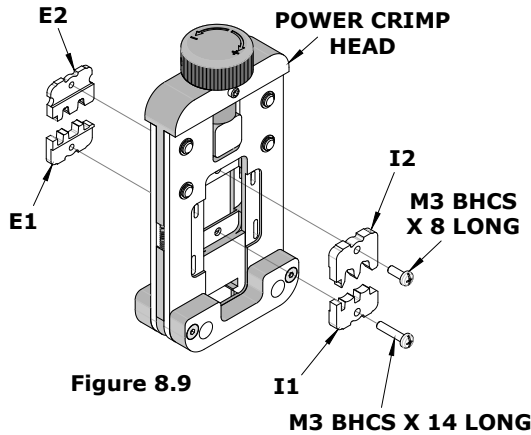

Figure 8.9
2. Insert the anvils or dies (E1 and I1) into the bottom slots of the nest. Install the M3 x 14 long BHCS and lightly tighten in place. See Figure 8.9.